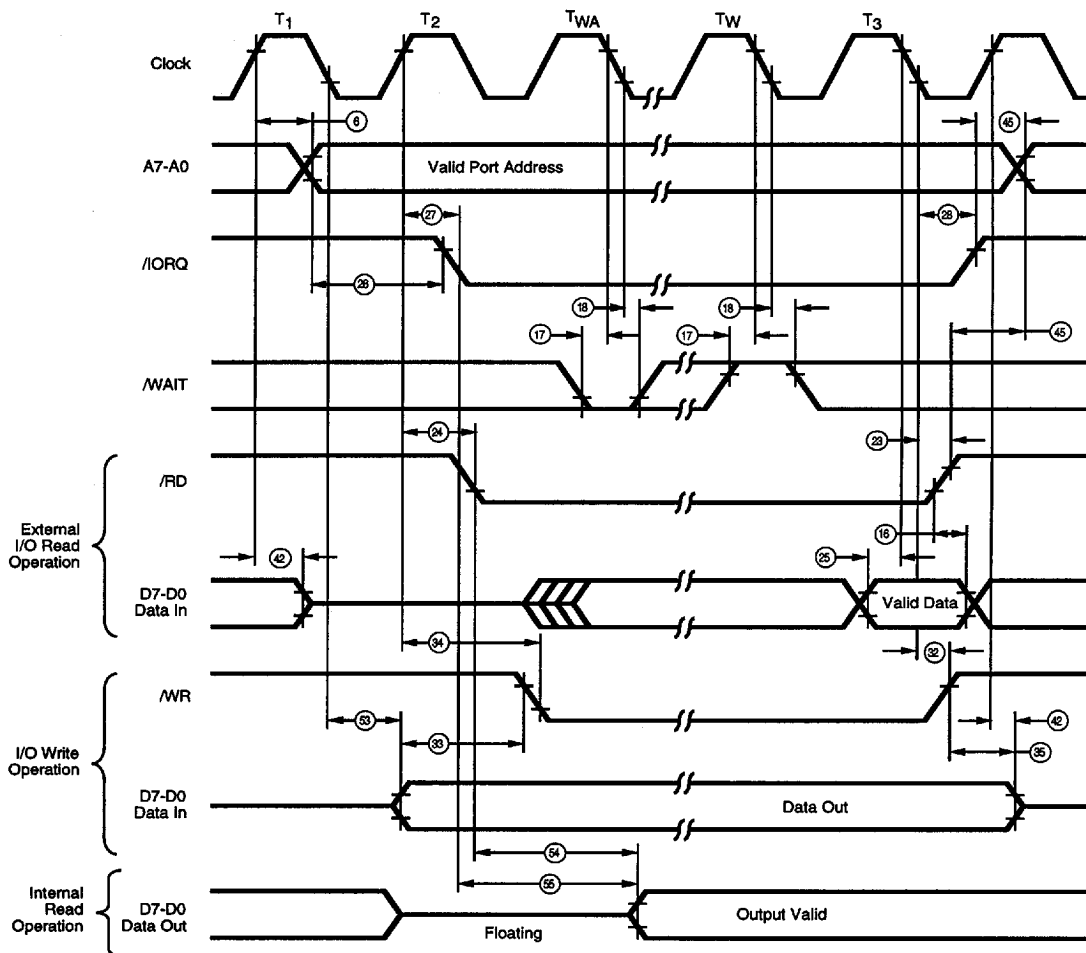

**Figure 41. Memory Read or Write Cycle**
**Memory Read or Write Cycles.** Figure 41 shows the timing of memory read or write cycles other than an Op-Code fetch (/M1) cycle. The /MREQ and /RD signals function like the Op-Code fetch cycle.